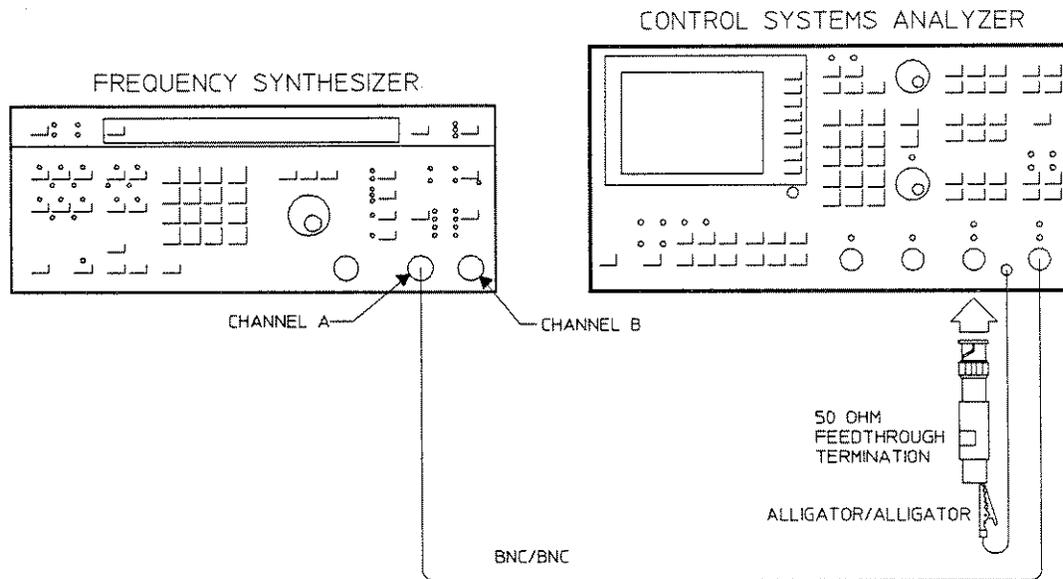

Figure 4-23. Cross Talk Channel 1 Test Setup
1. Connect the test instruments as shown in Figure 4-23.